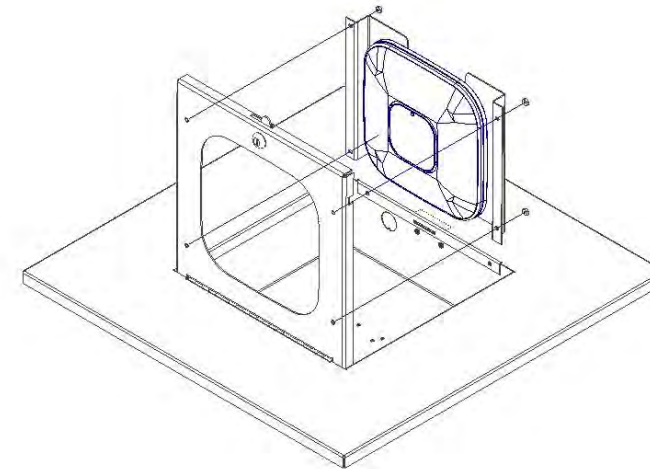

Figure 3
Step 3 – The door assembly is completed by attaching the previously assembled mounting plate/access point assembly to the enclosure door by securing it in place with four (4) #8-32 hex nuts. Place the slotted holes in the mounting plate/access point assembly over the studs located on the bottom side of the door (NOTE: the mounting plate can only be attached to the door in one direction. If the slotted holes don't match up with the studs in the door, rotate the mounting plate 180°). Once the mounting plate is positioned, secure it in place by installing four (4) #8-32 hex nuts (Figure 3).